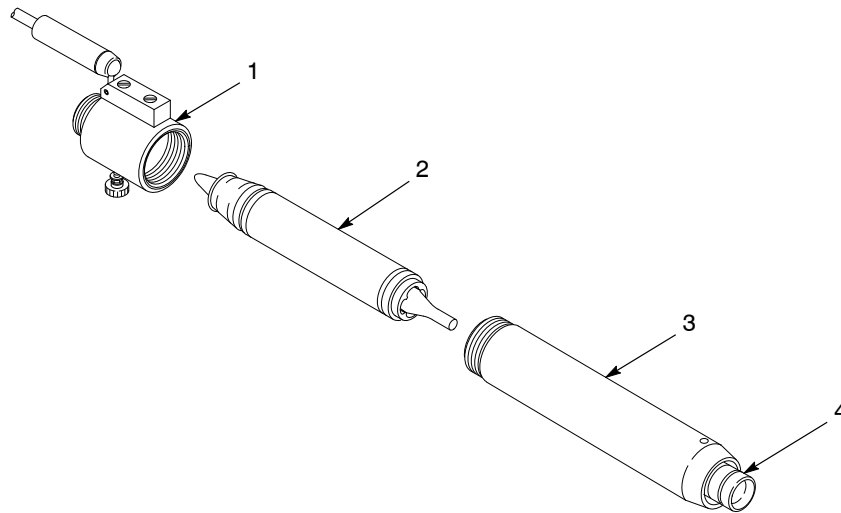

Figure 6-3 Removing the Charge Module—Steps 1 and 2
1. See Figure 6-3. Unscrew the extension (3) from the body (1), and slide the extension off the inner/outer wear sleeve assembly (2). The outlet wear sleeve assembly (4) will remain inside the extension.